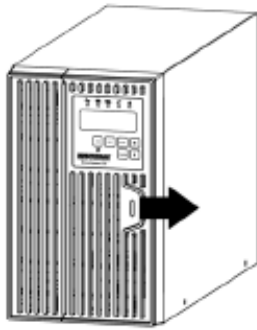

FIG. 1
2. Grasp the battery door on the right-hand side, pull it outward and then set it aside (FIG. 1).